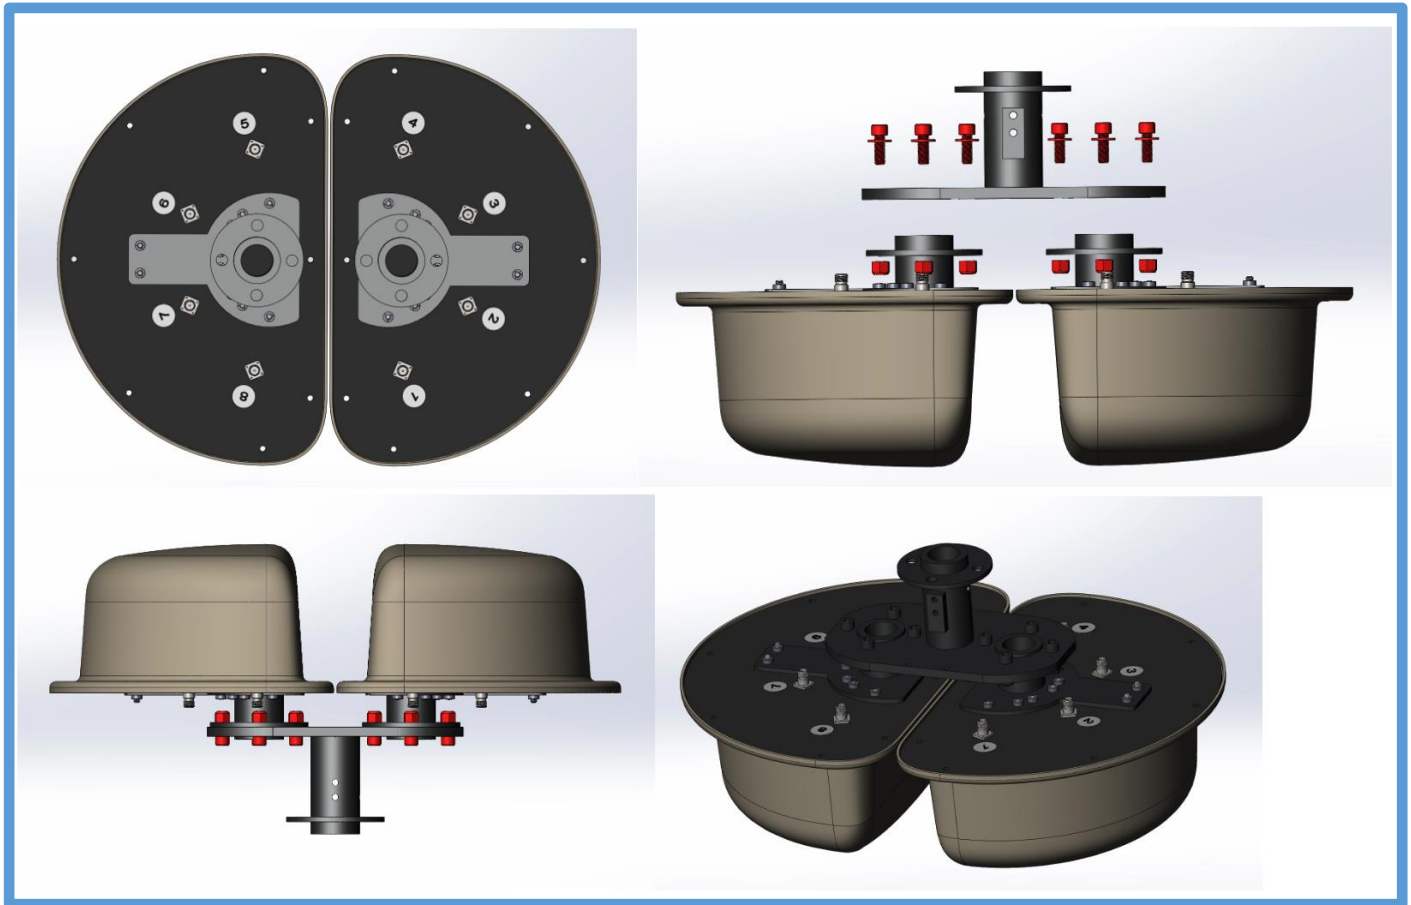

Figure 7. SkyView-DIVR MKII RADOME Assembly Guide
Referencing Figure 7, gently place both antenna radomes on a clean and level surface with their pole mounts facing up. Place the combining mount plate across the radome pole mounts with the antenna arm block between the sectors 1 and 8. Secure using eight (8) 3/8-16 socket head bolts, eight (8) 3/8-16 flat washers and eight (8) 3/8-16 hex nylock nuts. Secure using the included 7/16" wrench and 5/16" allen key.